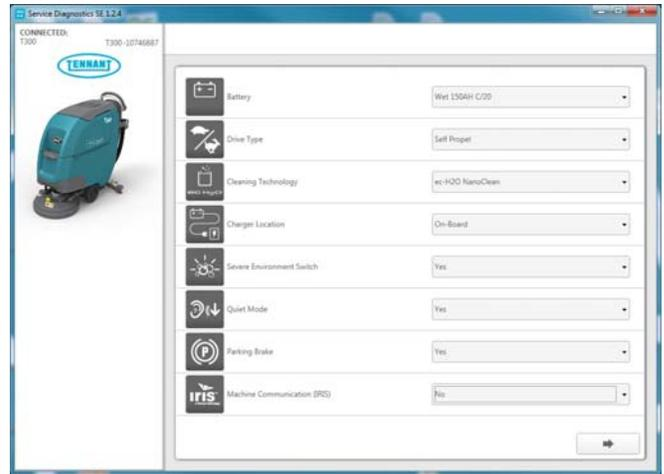

Fig. 9
7. Carefully select the all the installed options on the machine (Figure 9). This may visually require inspecting the machine to confirm all the installed options. Press the arrow button to advance to next screen.